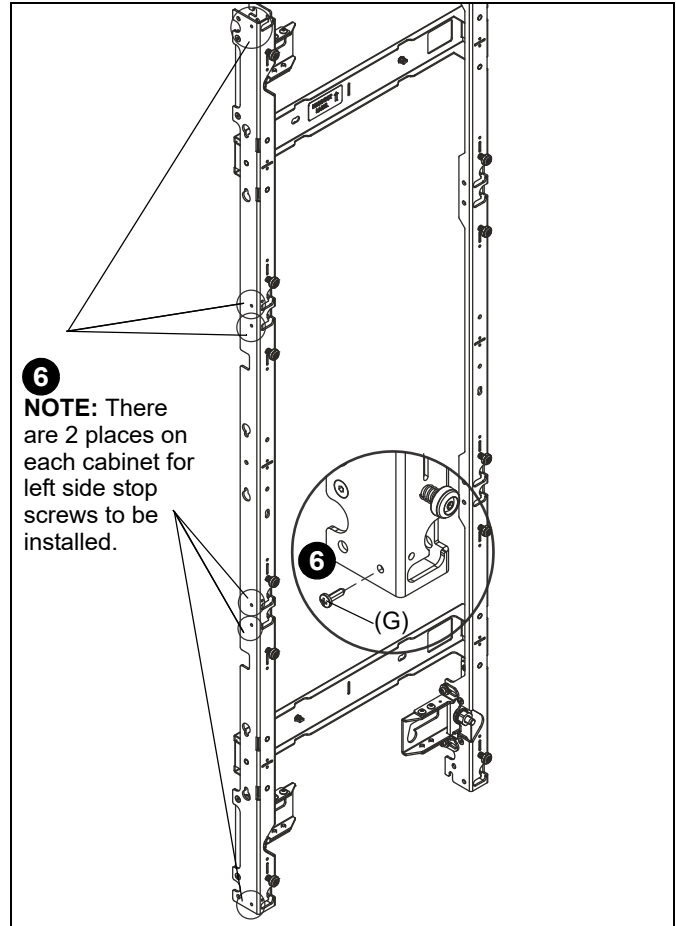

Figure 17
6. Insert one 10-24 x 5/8" self-tapping screw (G) into the left side of the mount. (See Figure 17)